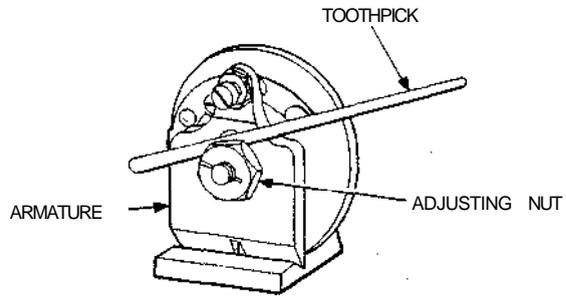

Fig. 14—Blocking 89-, 101-, 105-, 108-, and 172-Type Relays - Operated
**3.11 89-, 101-, 105-, 108-, and 172-Type Relays:** Fig. 14—Block relays operated by inserting a toothpick between the armature and the adjusting nut.